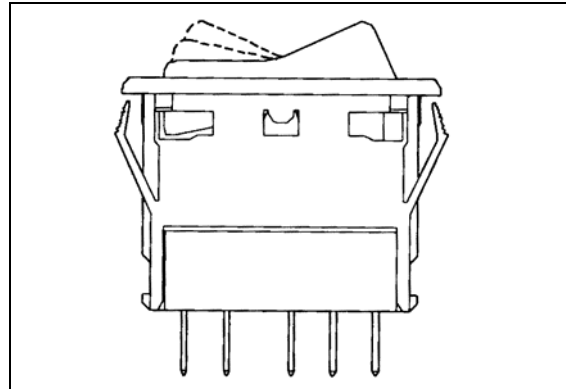

FIGURE 61: SWITCH
4. Lift the hinged cover and replace the two retaining screws (Fig. 61).